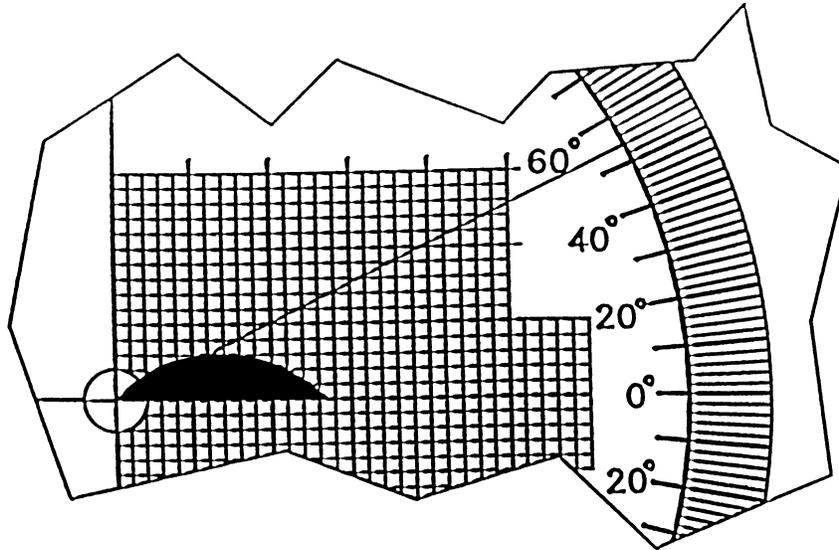

Figure 7
10. Slide the round measuring screen on the vertical back panel of the meter left/right until the vertical cross-line (Fig. 7) touches the left edge of the droplet's image.
For example, in Figure 7, the width of the droplet's base is 13 divisions. Therefore, the apex is located at the intersection of the vertical gridline corresponding to 6.5 divisions and the outer border of the image.